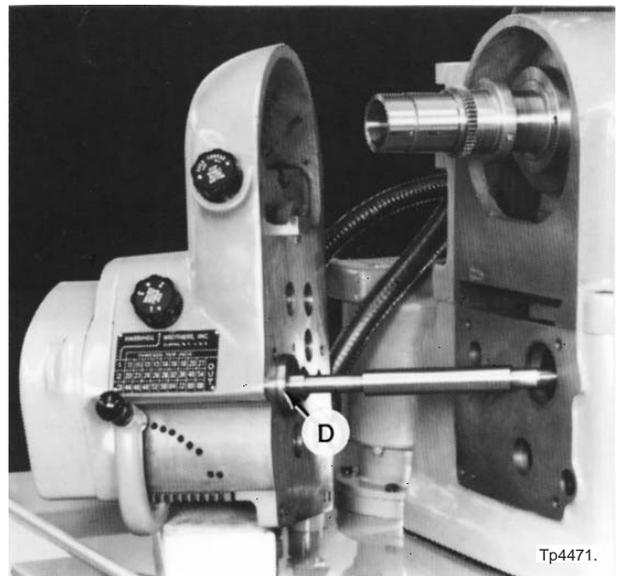

Figure 4.15 - Gearbox Removal
16. Remove the gearbox by pulling it straight off the headstock. Refer to Figure 4.15 .